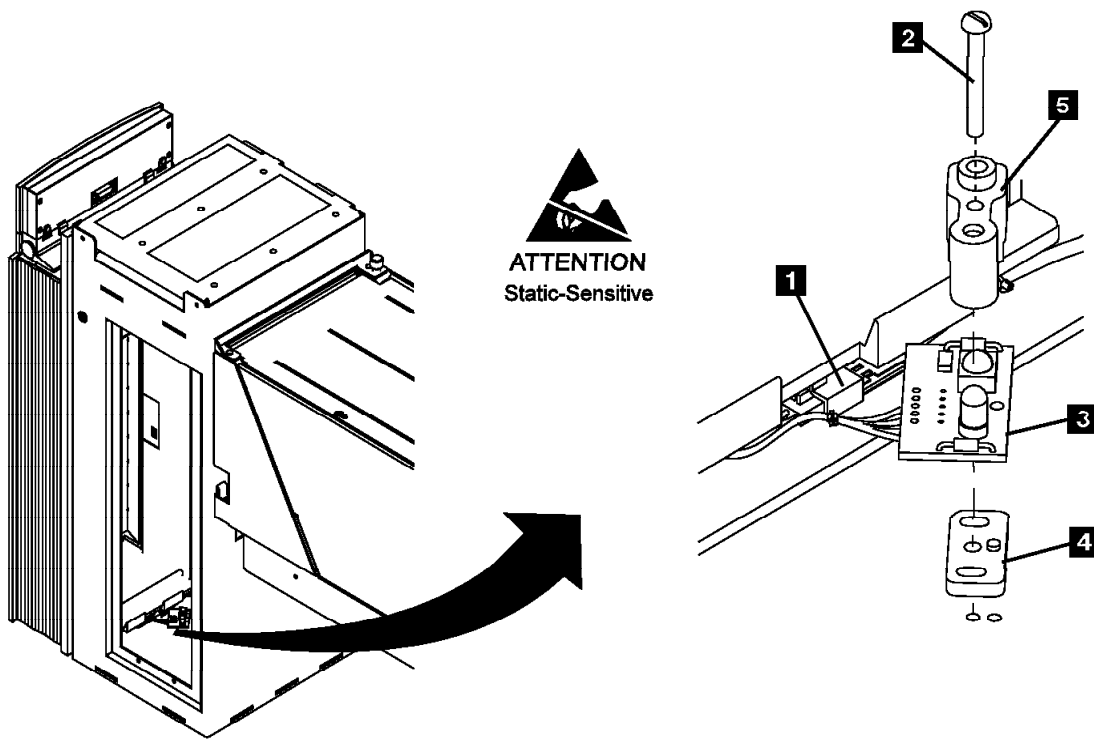

Figure 304. Global-Interference Sensor Assembly (Lower)
3. See Figure 304. Remove the sensor mounting screw **2**, the sensor cover **5**, and the spacer **4**. Notice the spacer **4** has locating pins for the sensor board **3** and the base. Also note the orientation of the sensor cover **5** relative to the sensor board **3**.
- b. Reseat the sensor cover **5** over the sensors on top of the sensor board **3**, as shown in Figure 304.